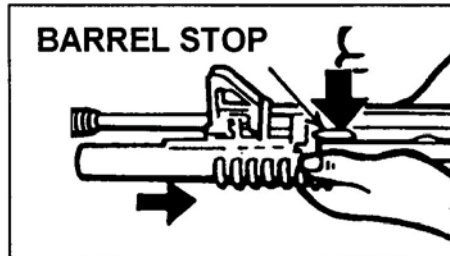

Figure 5. Removing the M203 barrel.
- d. Press the barrel stop to release the barrel from the receiver and remove the barrel (Figure 5).